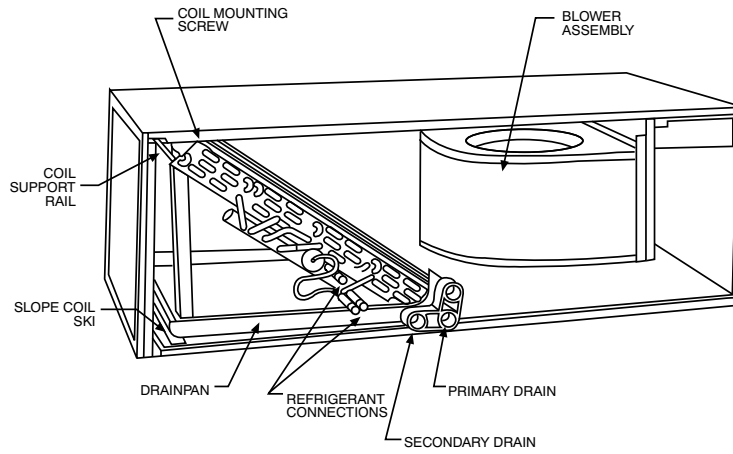

Fig. 6 – Conversion for Horizontal Right Applications - Slope Coil
7. Lay fan coil on its right side and reinstall coil assembly with condensate pan down (Fig. 6).